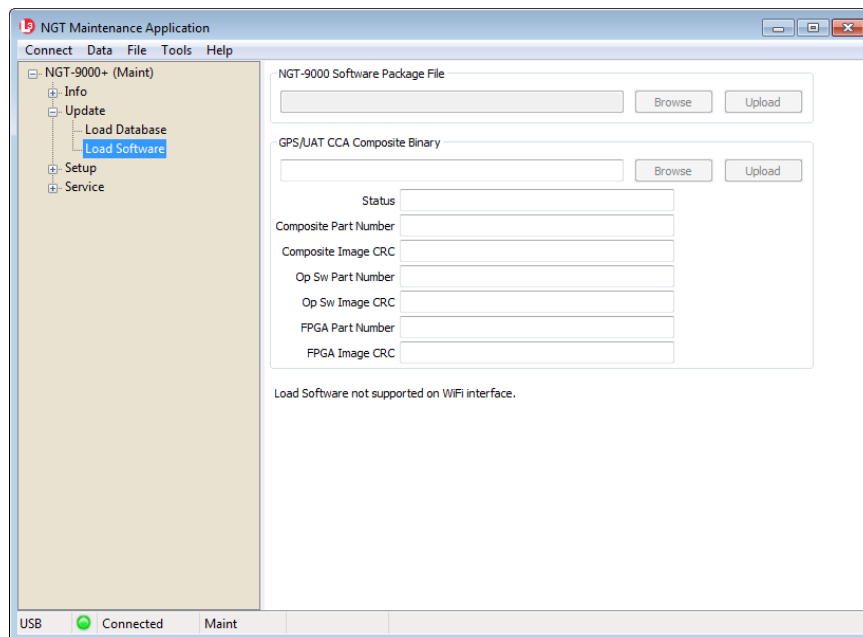

Figure 4-3: Lynx MAT – Update Software
1. From the Lynx MAT select Update→Load Software. See Figure 4-3. The tool has the option of loading either of the following software files. Note - Do not remove power to the unit or disconnect the MPC during this procedure.